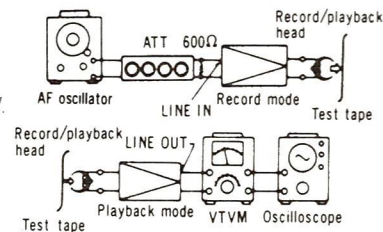

Fig. 16
Overall gain [TAPE 2] Condition: - Record/playback mode - Normal tape mode - Input level controls ... MAX - Standard input level: MIC -59.5 $\pm$ 4 dB LINE IN ... -24 $\pm$ 4 dB Equipment: - VTVM - AF oscillator - ATT - Oscilloscope - Resistor (600 Ω) - Test tape (reference blank tape) ... QZZCRA for Normal	1. Test equipment connection is shown in fig. 16. 2. Place UNIT into Normal tape mode, and load the test tape (QZZCRA). 3. Place UNIT into record mode. 4. Supply 1 kHz signal (-24 dB) from AF oscillator, through ATT to LINE IN. 5. Adjust ATT until monitor level at LINE OUT becomes 0.4 V. 6. Playback recorded tape, and make sure the value at LINE OUT on VTVM becomes 0.4 V. 7. If measured value is not 0.4 V, adjust VR3 (L-CH), VR4 (R-CH) 8. Repeat from step (2) Fig. 16
- Test equipment connection is shown in fig. 16.
- Repeat from step (2).